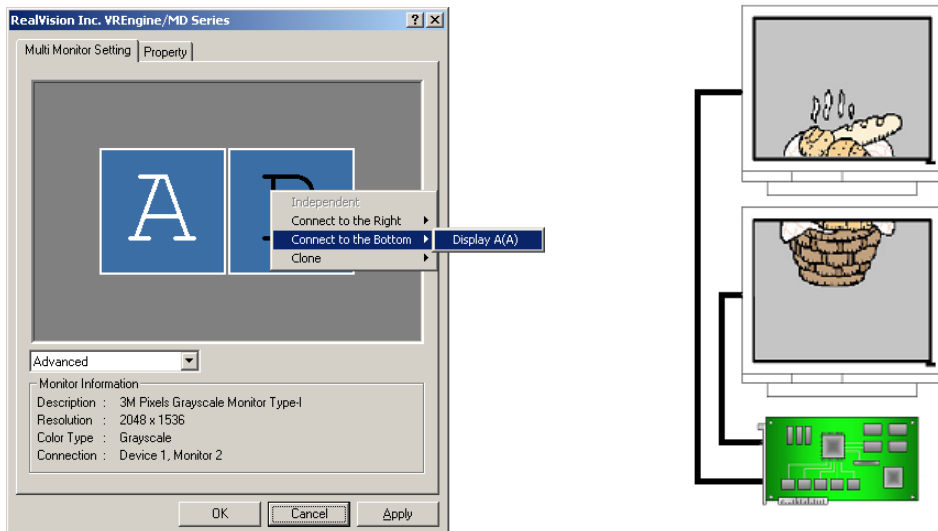

Fig. 5.15 Connect to the bottom
**{Connect to the bottom}** is the command that connects the selected monitor to bottom of target monitor. Select as shown in Fig. 5.15, B-monitor will be connected to A-monitor bottom, and two monitors are made into one virtual monitor.